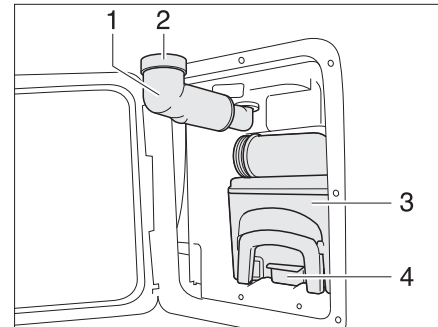

Fig. 143 Thetford cassette
- Swing the fresh water filler neck (Fig. 143,1) towards the outside.
- Remove the screw cap (Fig. 143,2).